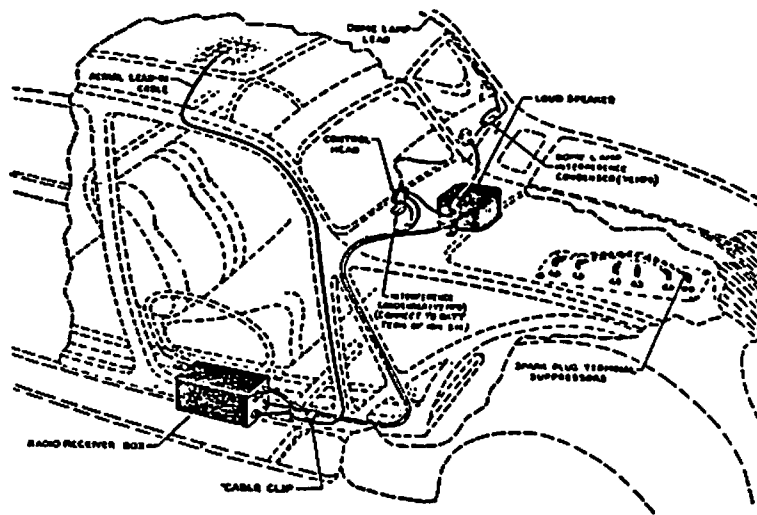

FIGURE 4
4. Remove the right side rail under the floor board and up through the opening in the floor board riser provided for the speedometer cable. See Fig. 4. In bodies where the hole in the toeboard riser is not large enough or obstructed and will not permit the passage of the plug on the speaker end of the cable it will be necessary to remove the floorboard and make a 1/2" slot in the toeboard riser into the speedometer cable channel to allow the cables to be assembled in place. Do not attempt to remove the plug from the end of the cable. Fasten them in the clips provided